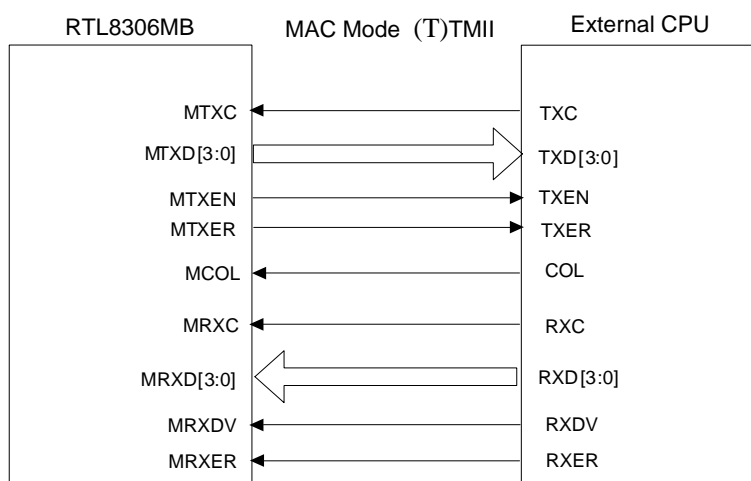

Figure 11. MAC Mode (T)MII Signal Diagram
7.3.5.2 MAC Mode (T)MII
MAC mode (T)MII means (T)MII at the External CPU drives the transmitting and receiving reference clock. Figure 11 shows the signal diagram for MAC mode (T)MII. MTXER/MRXER/MCOL are not connected in TMII MAC mode.